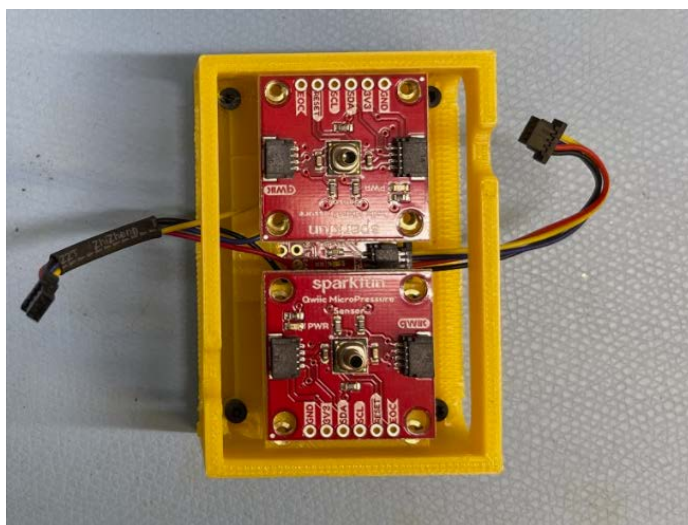

Figure 91: Pressure sensors are placed on the pressure sensor mount in the orientation shown
13. Place the two pressure sensors in the position shown in Fig 91.